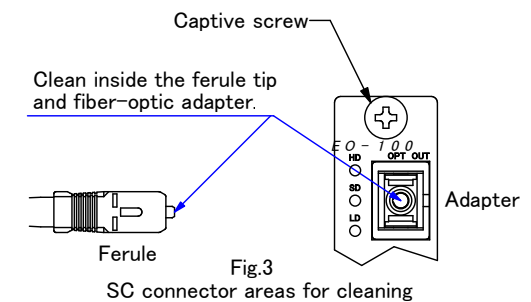

Fig.3
5. Be sure to clean the ferrule tip of the plug and the interior of the plug-in module's adapter as shown in Fig.3. If the fiber-optic connector becomes dirty, light loss could increase, possibly degrading the light communication quality.
8. Set the power switch(2) to the ON position to supply the power to the plug-in module. Power LED(3) lights green.